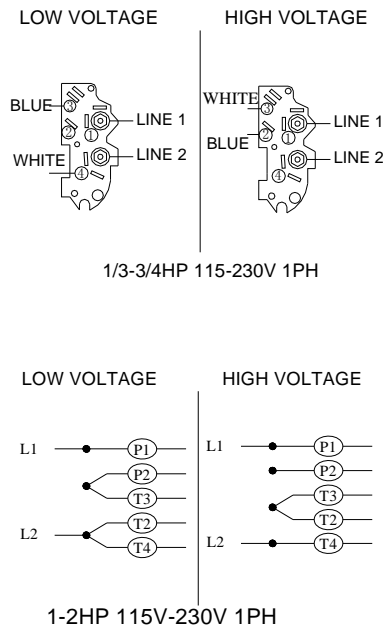

Figure 11
5. Specific Wiring Procedure (Refer to Figure 11, 12).
- d. The motor wiring diagrams are Figure 11, 12 and also are located on the motor label of the pump.